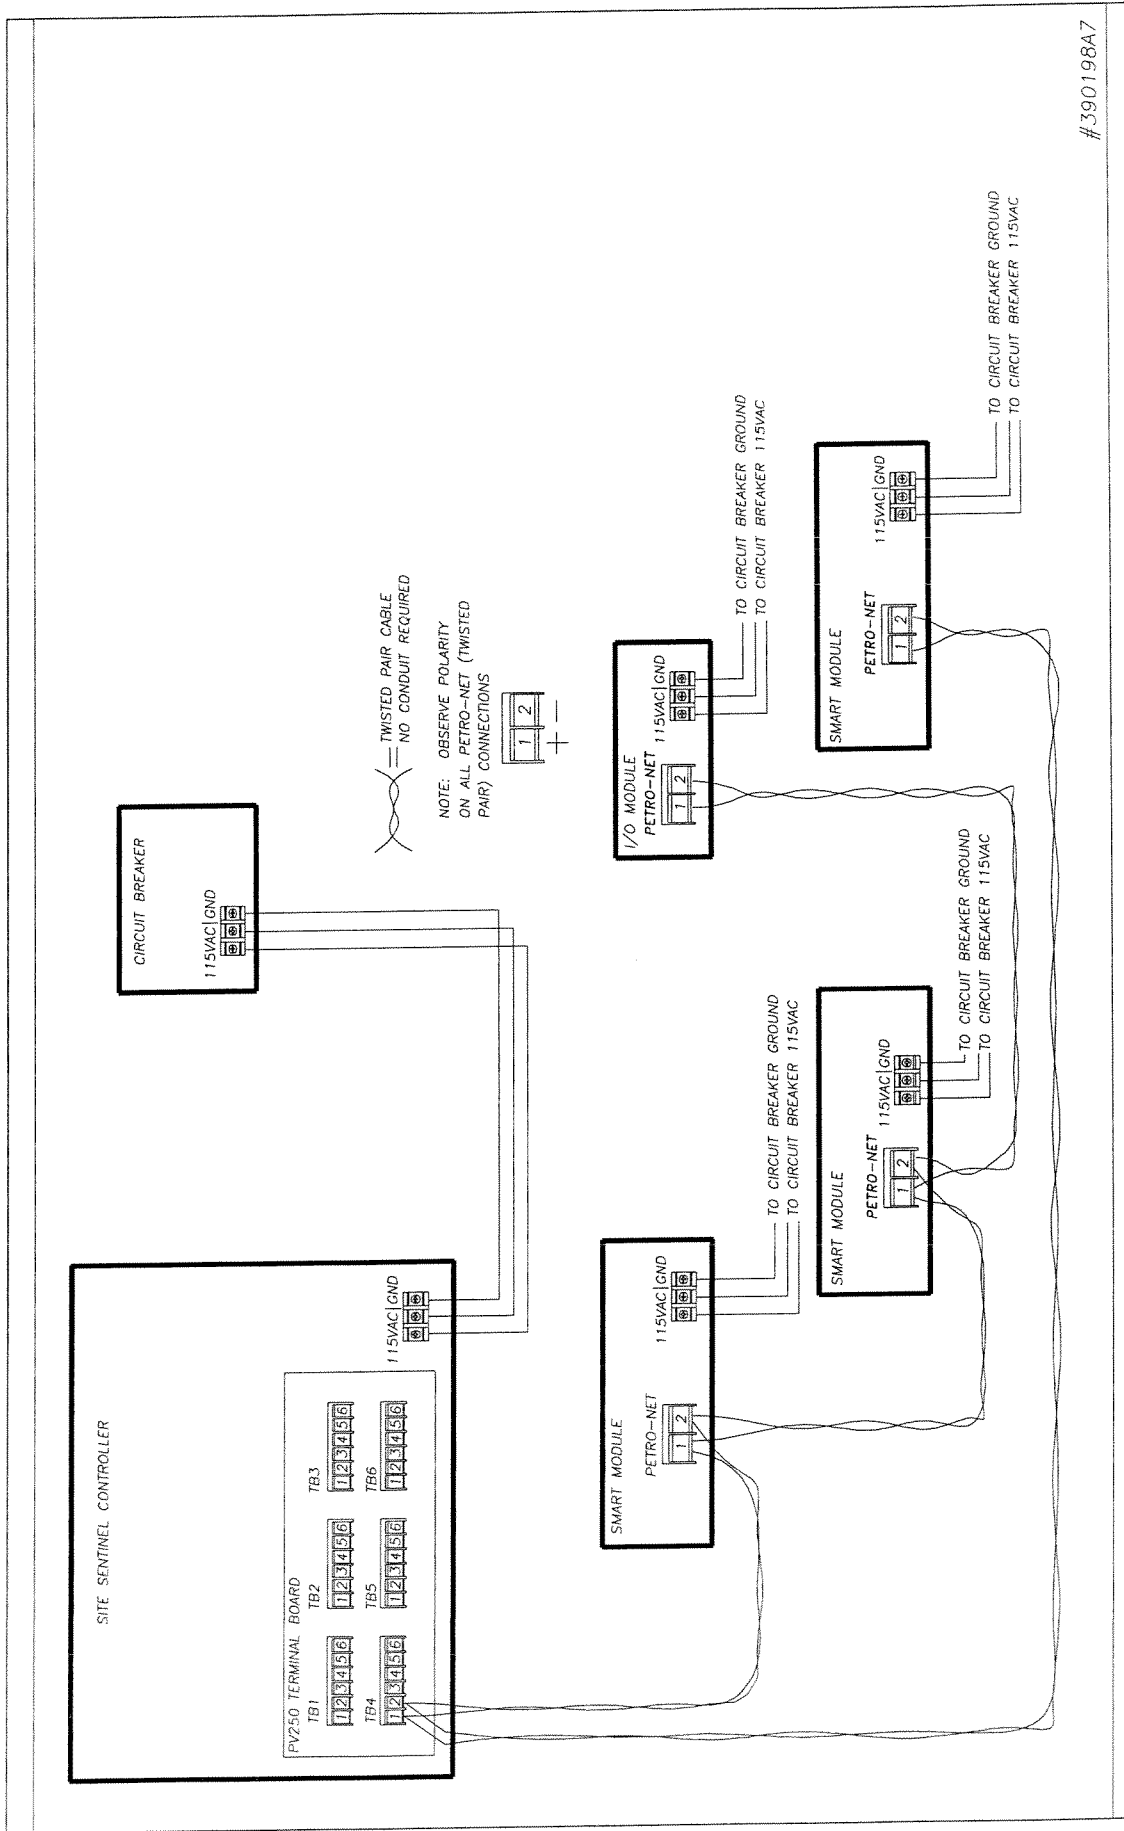

Figure 33 - Smart/I/O Module Wiring, Site Sentinel Model II
1. See Figure 33 on Page 55. Pull two AC power wires from the circuit breaker to each module; you may "daisy chain" the wires from module to module, not to exceed the circuit breaker rating.